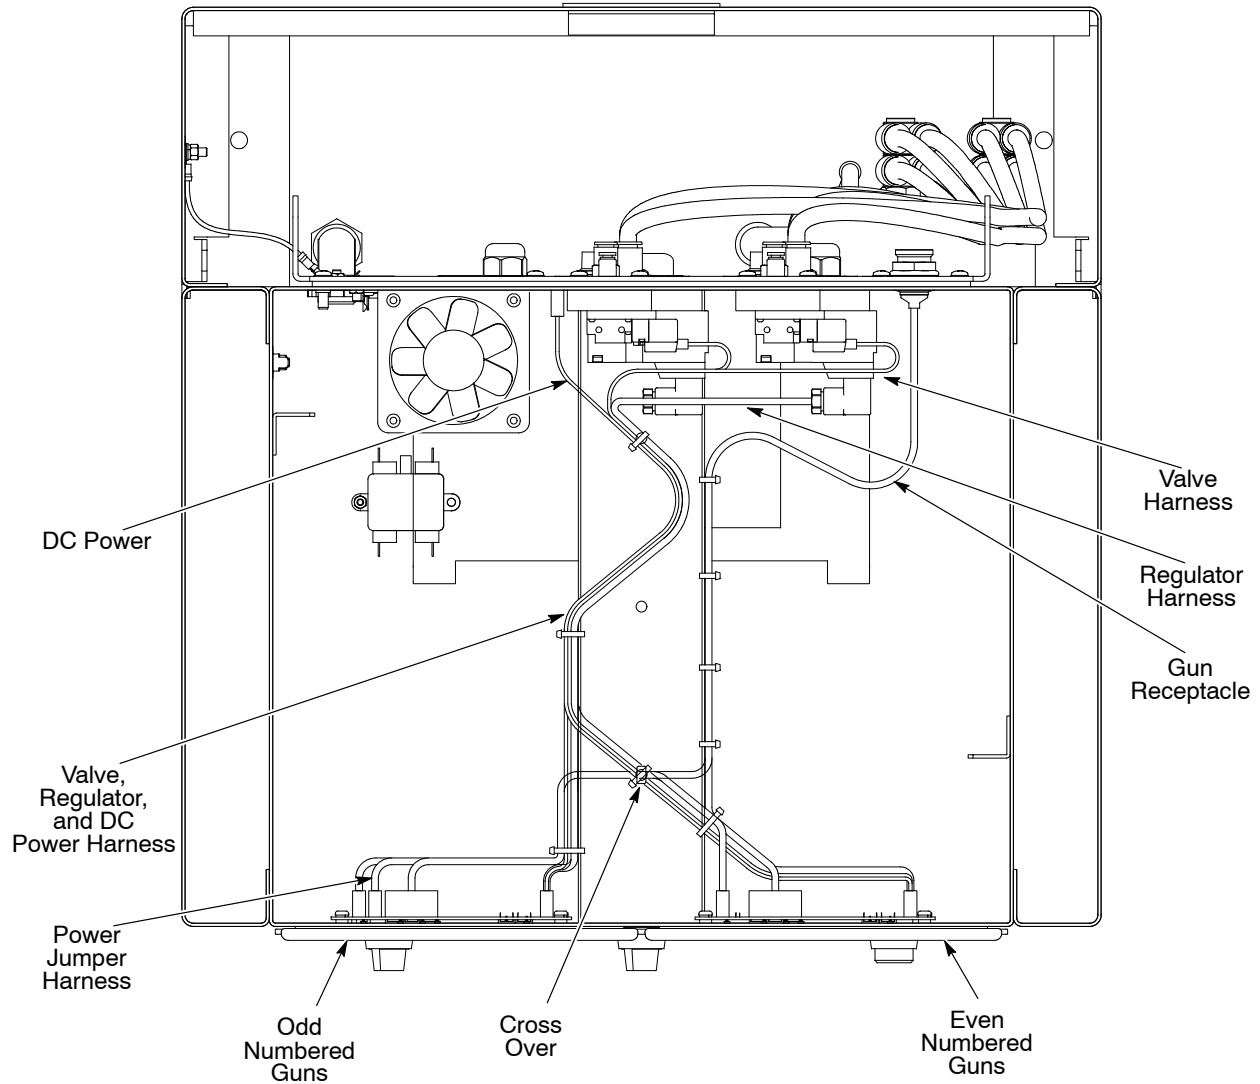

Figure 2 Overhead View of Cabinet showing Harness Cross Over and Connections
5. Secure the rear panel to the cabinet with M5 screws (8), but do not tighten till end of procedure.
- Use Figure 2 to route harnesses along the middle bar and create the proper cross over. Use cable ties to secure harnesses in place.